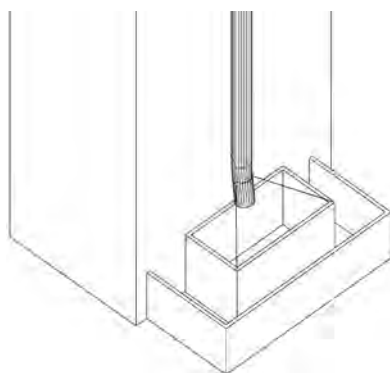

Fig. 23 Barricaded container.
3. Barricade the container area in order to protect workers and the public from any material that may ricochet out of the container. See Fig. 23